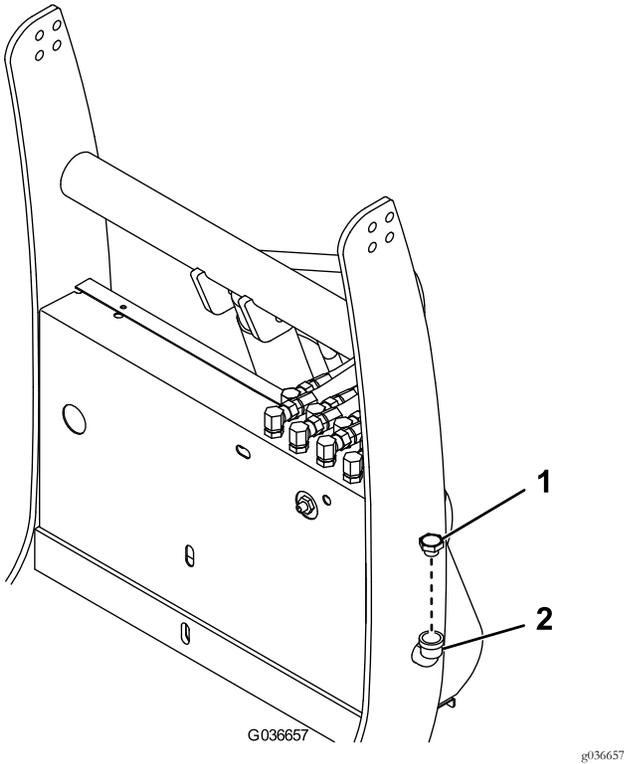

Figure 32
2. Clean the area around the fill cap (Figure 32).
3. Remove the fill cap from the hydraulic reservoir (Figure 32).